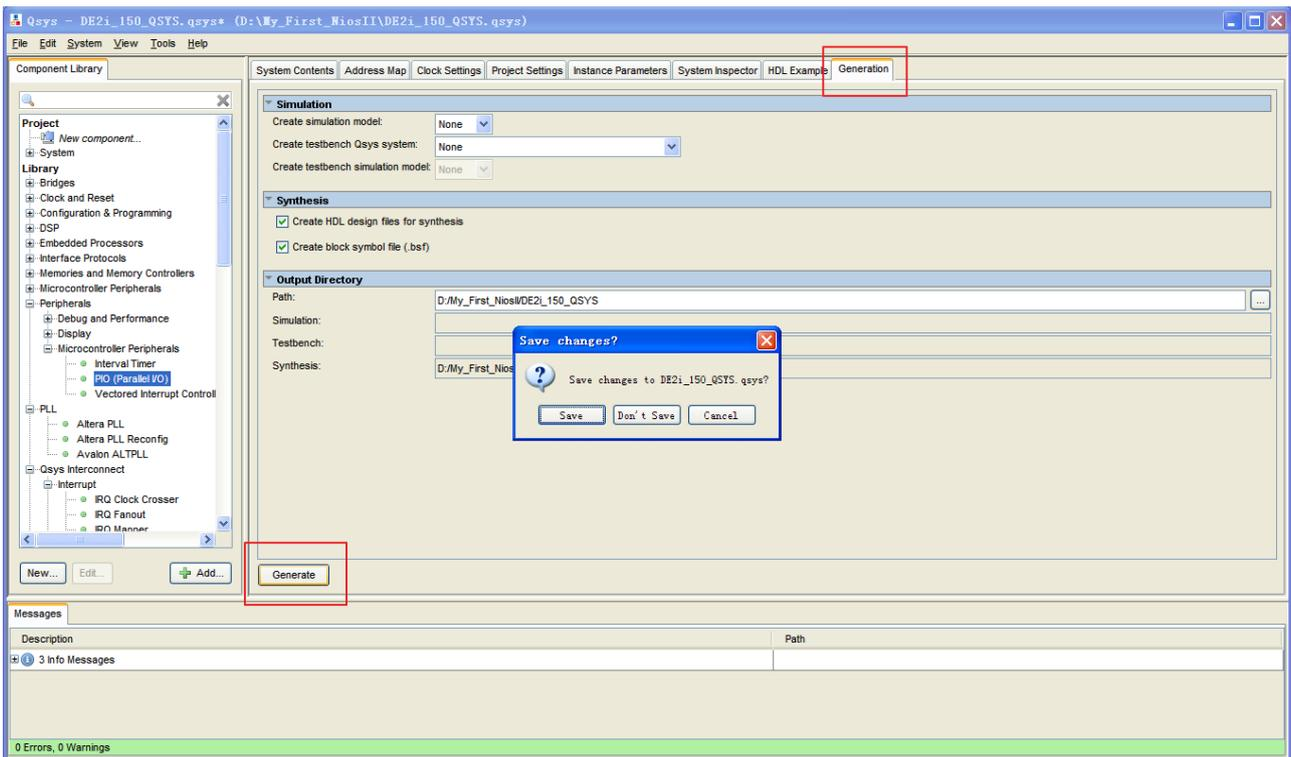
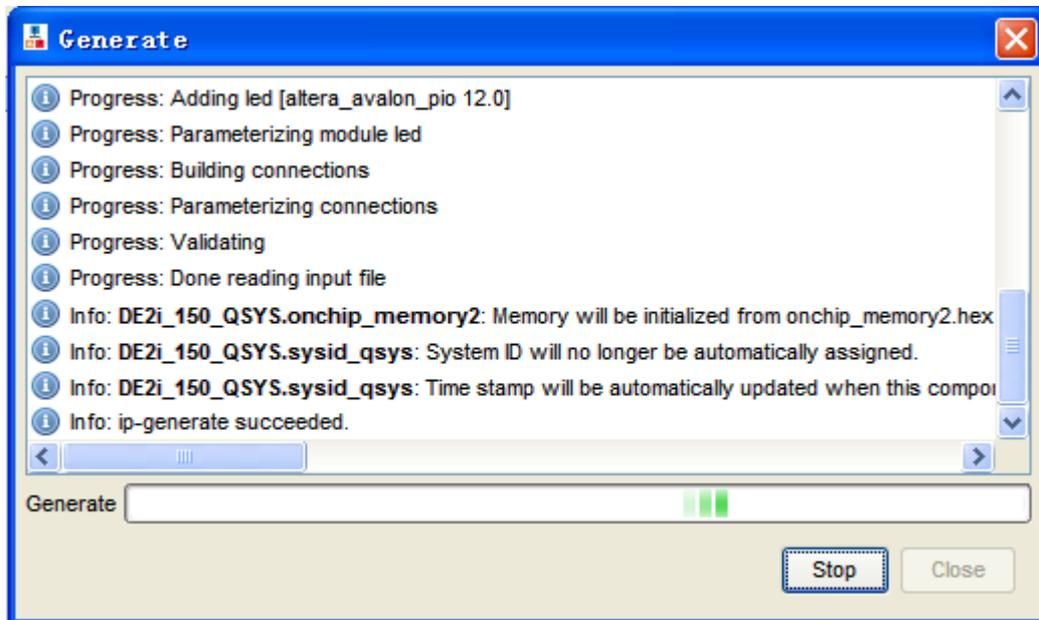
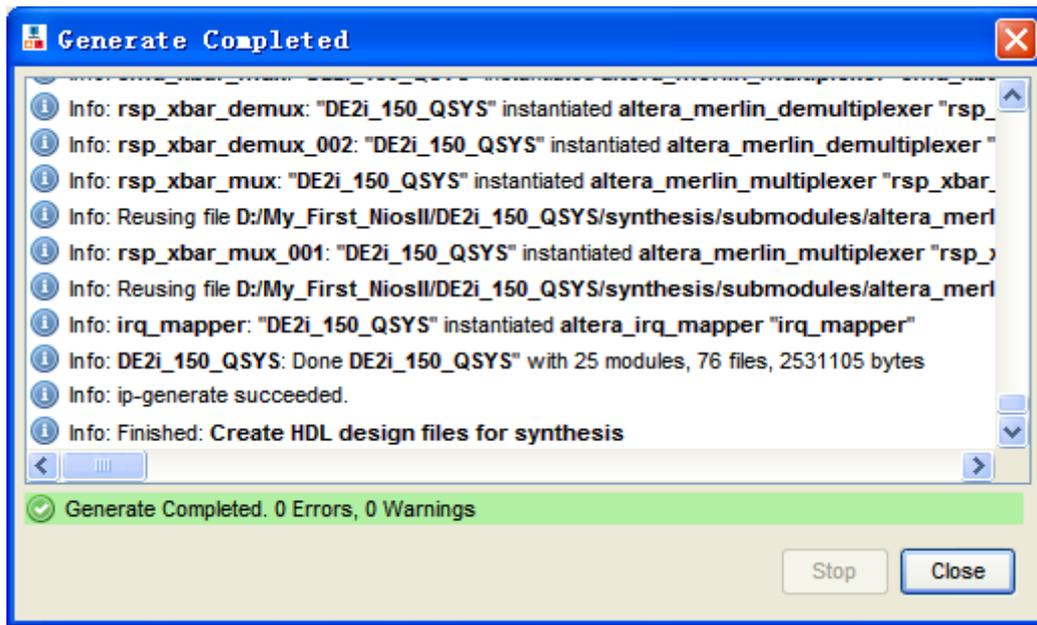

Figure 1-47 Generate Qsys
Figure 1-48 Generate Qsys
Figure 1-49 Generate Qsys Completely
- Click **Generate** tab and click **Generate** then pop a window as shown in Figure 1-47. Click **Save** and the generation start. Figure 1-48 shows the generate process. If there is no error in the generation, the window will show successful as shown in Figure 1-49.